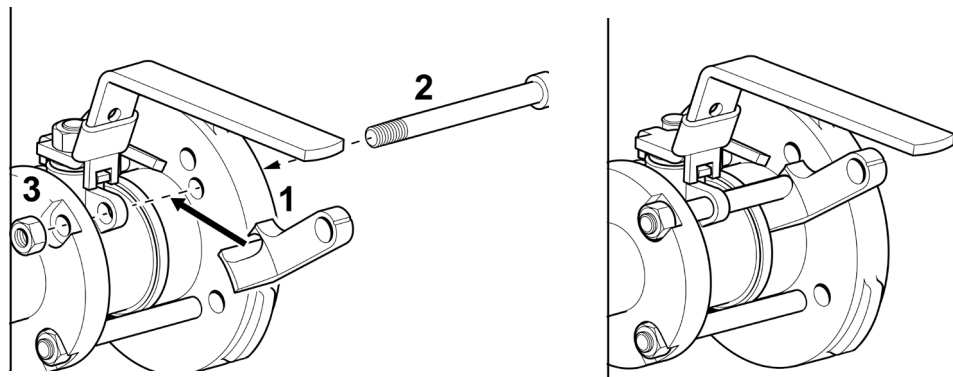

Figure 7 Locking bracket installed
2. Insert safety locking bracket according to Figure 7